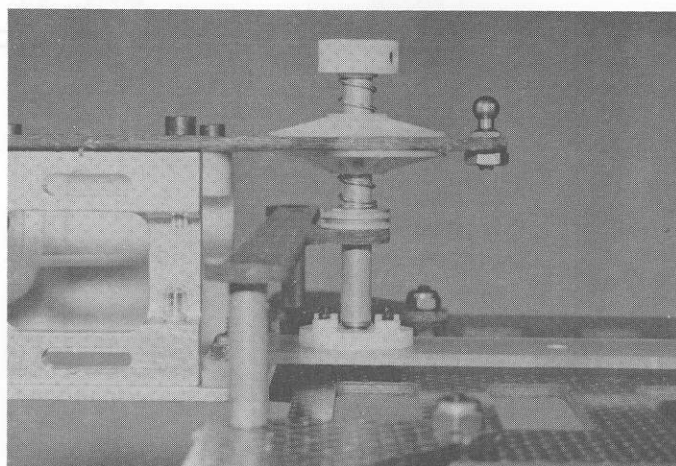

Fig. 44
□ **Figs. 44 & 45** Go back to bag 6 and take out the second plastic dampner washer, with #8330 black O-ring installed, and (1) place it over the upper dampner post on top of the graphite upper brace. Make sure the smooth side is facing down. (2) Coat this black O-ring with diff lube if you haven't done so. (3) From the same bag, remove the #4341 dampner spring and the #4338 nylon locking collar with set screw which we set aside in fig. 38. (4) Install the spring on top of the dampner post, (5) the nylon locking collar and (6) lightly tighten down the set screw.
(7) Measure the spacing between the top of the two #3323 #8 aluminum washers and the bottom of the lower plastic dampner washer. (8) Adjust the upper collar until the gap between the top of the upper dampner washer and the bottom of the nylon locking collar is the same as the gap between the washers and the lower dampner washer. This should measure out to approximately .240" spacing. Equal spacing on the top and bottom will help make the car more consistent.